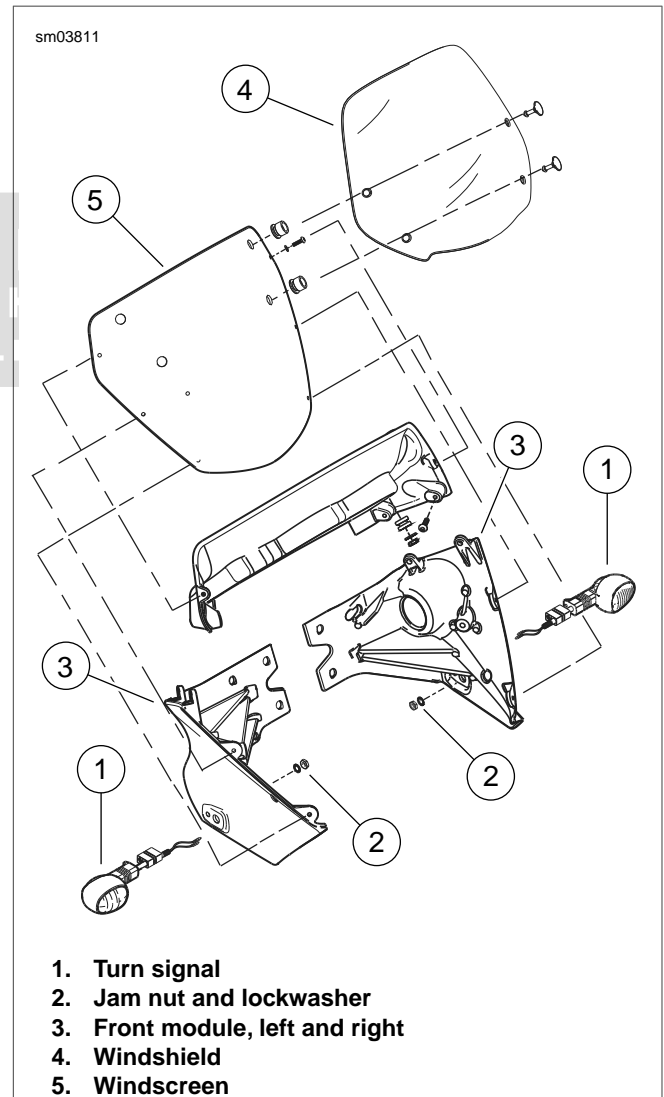

Figure 6-51. Front Turn Signals: Ulysses
3. See Figure 6-51. Remove jam nut and lockwasher (2) from inside of front module (3).
4. Pull bullet connectors and wiring through hole in front module (3) and remove turn signal (1).
1. See Figure 6-51. Insert bullet connectors and wiring through hole in front module.